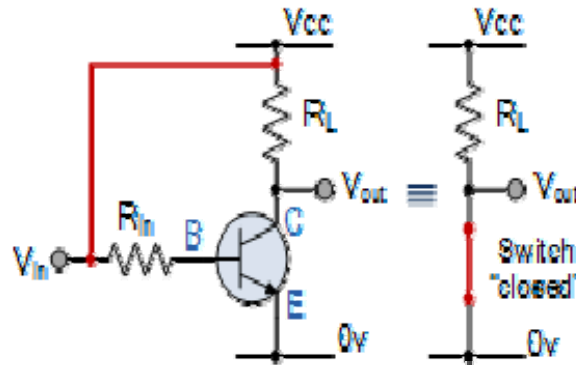

Figure 7
- (a) List out three (3) types of BJT circuit configurations. (3 marks)
- (b) **Figure 7** shows silicon BJT in saturation condition and acts as a “fully ON” switch. List out four (4) saturation characteristics. (4 marks)